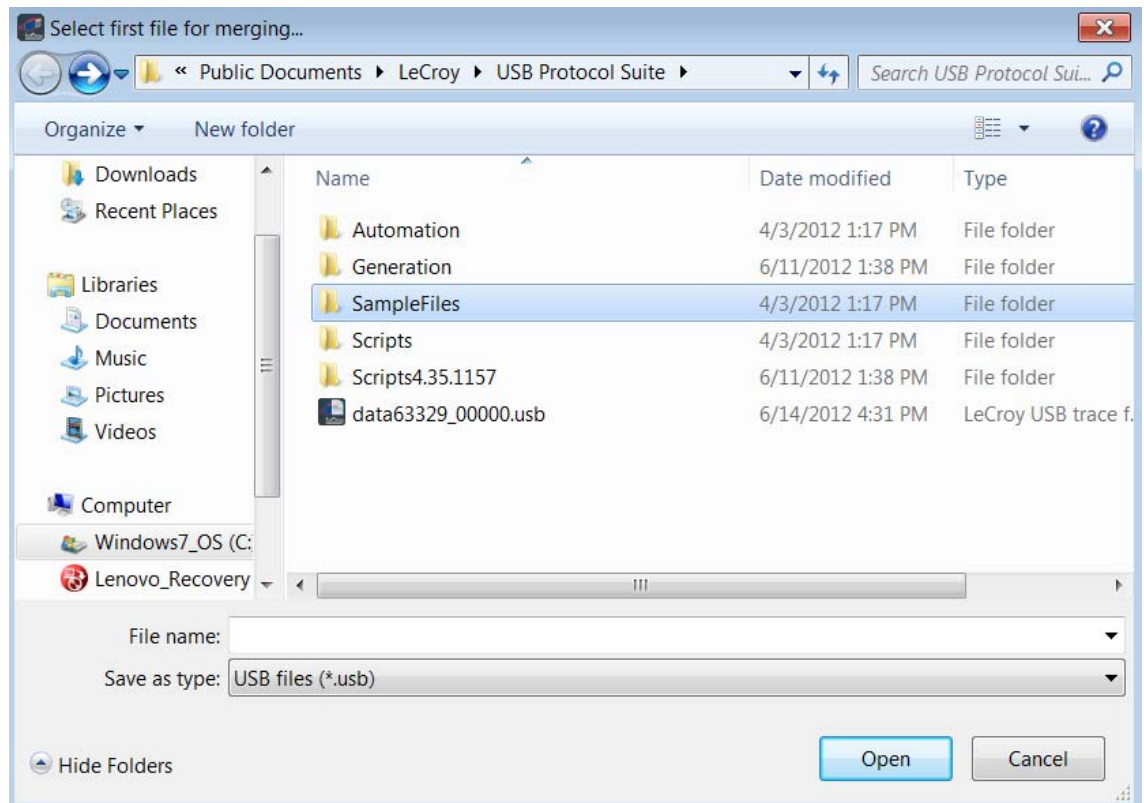

Figure 10.33: Select First File For merging Dialog
1. Select **File > Merge Trace Files** to display a dialog box asking for the first source file (see Figure 10.33 on page 325).